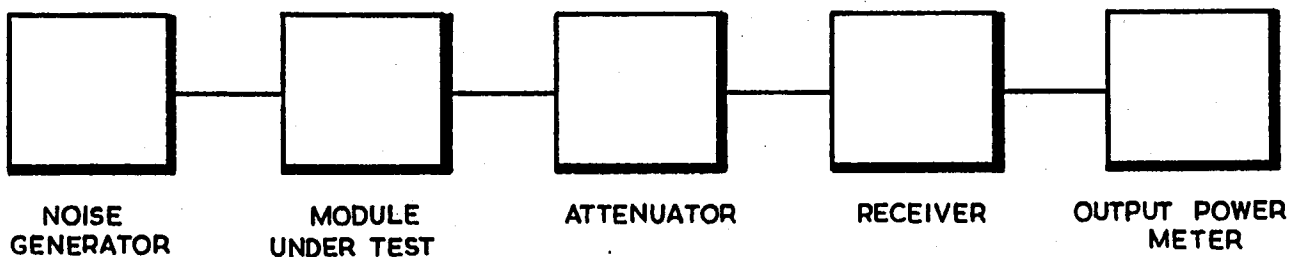

Fig. 20.1
- (1) Noise Generator of 75 ohm output impedance to measure noise factor up to 30 times, over the frequency range of 1 MHz to 37.3 MHz. The generator should be calibrated directly in noise factor.
- (2) Receiver (or other detector) of noise factor less than 15 times (12dB), tunable to 1 MHz, 10.7 MHz and 30 MHz, and also of less than 100 times (20dB) at 100 kHz. There should be facility for monitoring the output power.
- (3) Switchable 3dB pad, which must include matching, if necessary, between the 75 ohm output impedance of the module under test and the input impedance of the receiver (see Fig.20.1).
- (4) Output power meter to be used with the receiver (2).
- (5) 3dB pad with Belling Lee miniature coaxial terminations for insertion in cable 13 of the PR155 receiver.
(a) Connect the equipment as shown in Fig.20.1. With the noise generator connected, but switched off, the attenuator set to zero and the normal d.c. and r.f. connections made to the module, adjust the receiver on manual gain, i.e. a.g.c. off, to give a suitable output power at the specified frequency of test. Note the reading.
The procedure is similar to that outlined in 20.2.1 except that in this case the PR155 Receiver replaces the module under test and the receiver in Fig.20.1. The 3dB attenuator is placed between Module 4 and Module 5 (cable 13) when required.